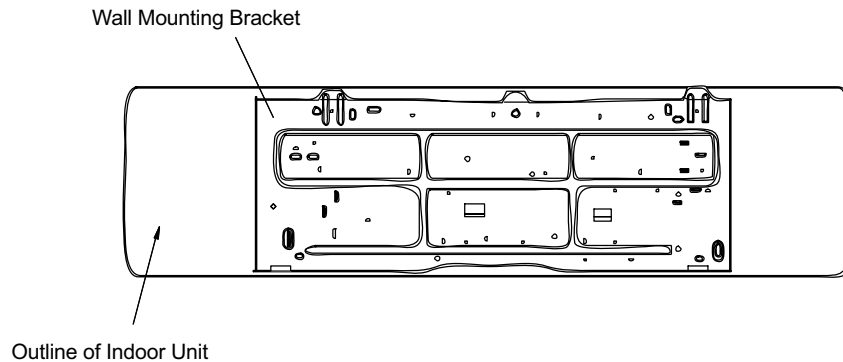

Figure 3. Wall Mounting Brackets
- 4 - Use the wall mounting bracket as a template to determine the exit point for utility bundle (figure 3). Mark the wall to facilitate drilling hole for utility bundle.